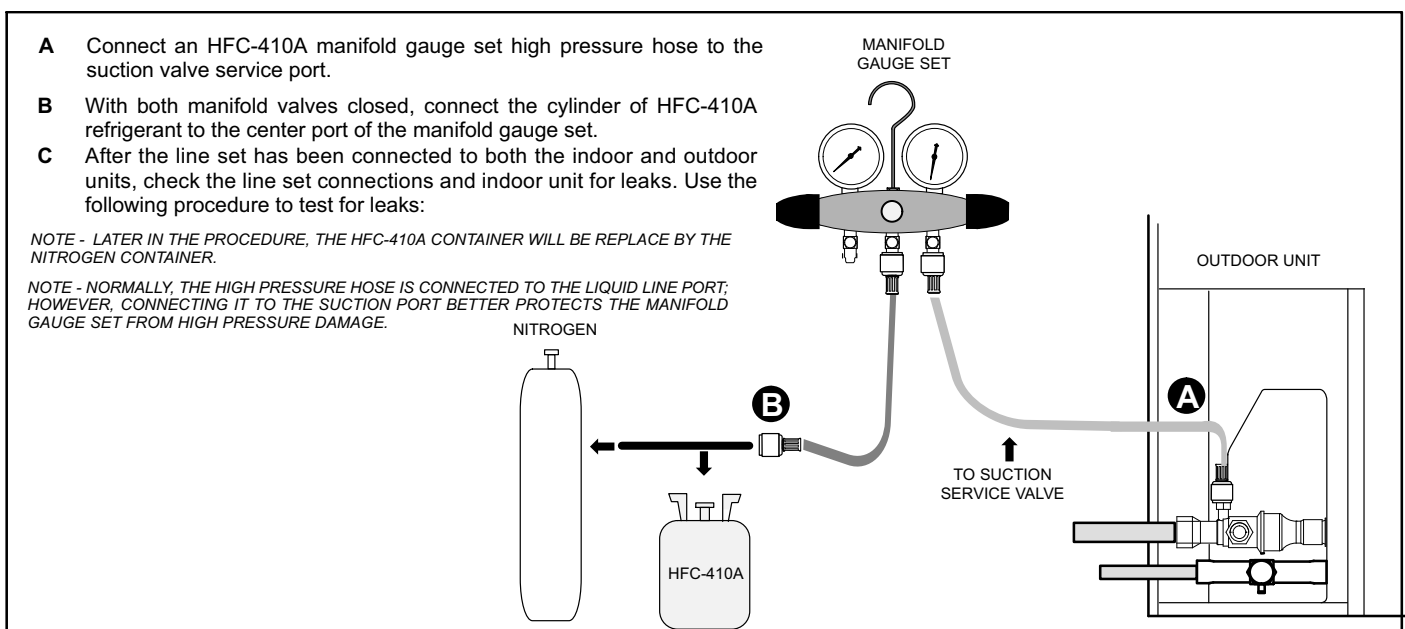

FIGURE 12
1. Connect an HFC-410A manifold gauge set as illustrated in figure 12.